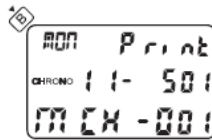

Fig. 21
3. Pressing B at the PRINT ALL mode will go to the PRINT RACE mode with display as shown in Fig.21.